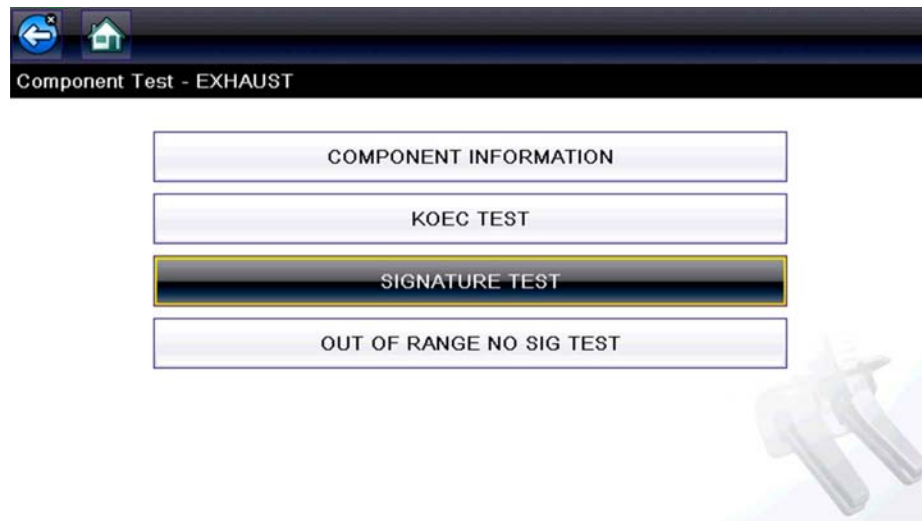

Figure 4-11 *Component Test Menu*
2. Select a **Test** from the Component Test menu (Figure 4-11).